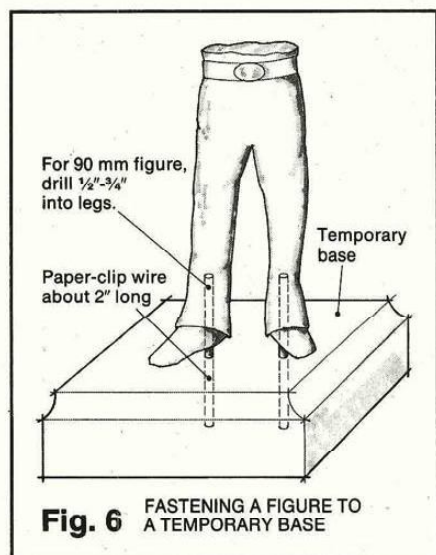

**Fig. 5**
Gunpowder residues range from dark gray-brown to light gray. Don't overdo it; most gunpowder stains are minimal. The hot shells falling from the ejection chutes also stain the surface, but only slightly, Figs. 5, 6, and 7.
**Figs. 5, 6, and 7.** Gunpowder stains shouldn't be overdone. Stains from muzzle blast are the most noticeable but the shell ejector chutes also exhibit powder stains. An airbrush or pastels can be used to produce these as well as oil stains from cowlings, wing folds, and canopy rails.
Large parts and those subject to stress during handling should be pinned as well as glued. For example, to pin an arm, Fig. 5, drill a hole in the arm and a corresponding hole in the shoulder,